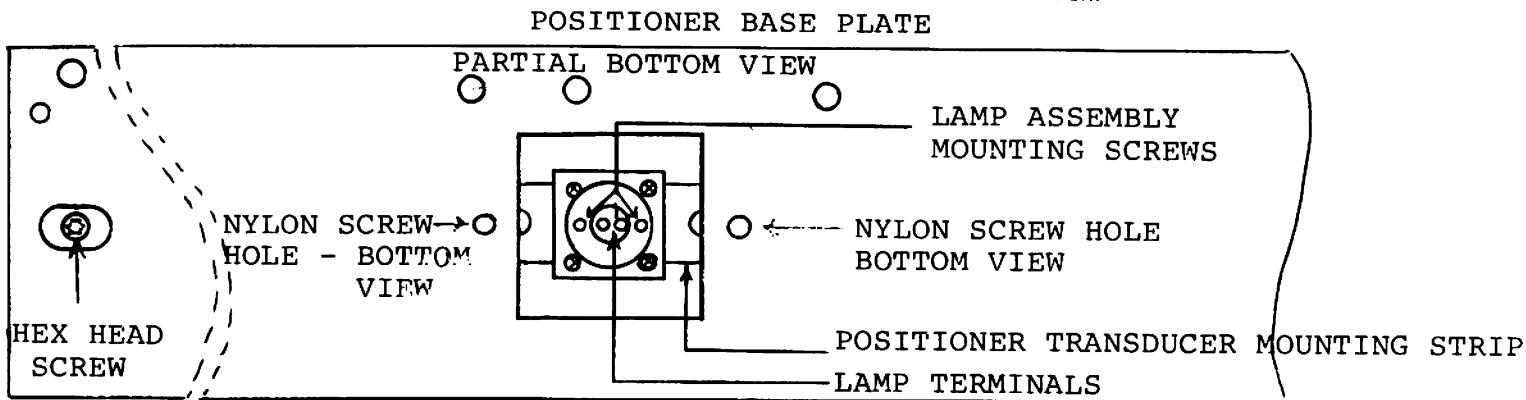

FIGURE 1
- 14.0 Remove the hex head screw (from beneath the drive) that holds the positioner transducer mounting strip closest to the spindle (See Figure 1, Page 3).
- 18.0 New bulb assembly terminals shall run parallel with positioner (See Figure 1).